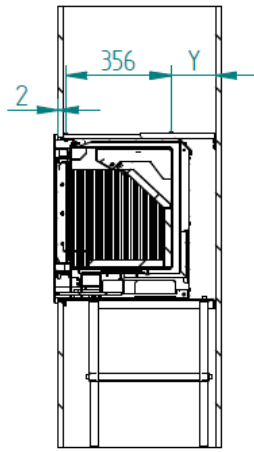

Figure 16 - Minimum distance between frame and face of plasterboard or masonry
14. Finally, you can place the door and frame on the unit, the frame should have a clearance of at least 2 mm in relation to the plasterboard or masonry, see Figure 16.